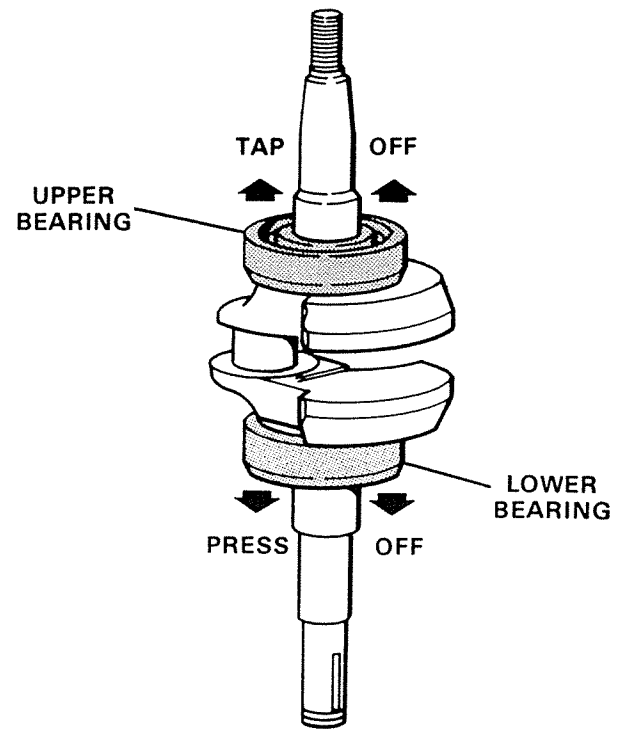

Figure 12. Removing Crankshaft Bearings.
13. Remove lower crankshaft bearing from crankshaft with arbor press; upper bearing by tapping lightly with a plastic or rubber hammer. Figure 12.